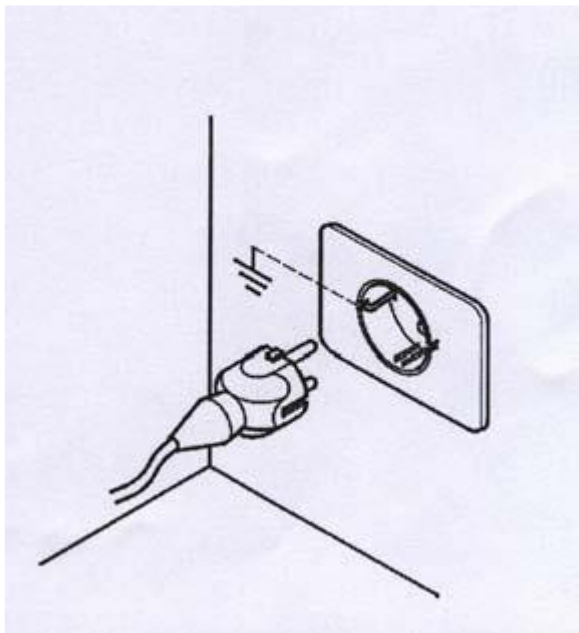

Figure 16
- Connect the stove to the socket with grounding. Figure 16